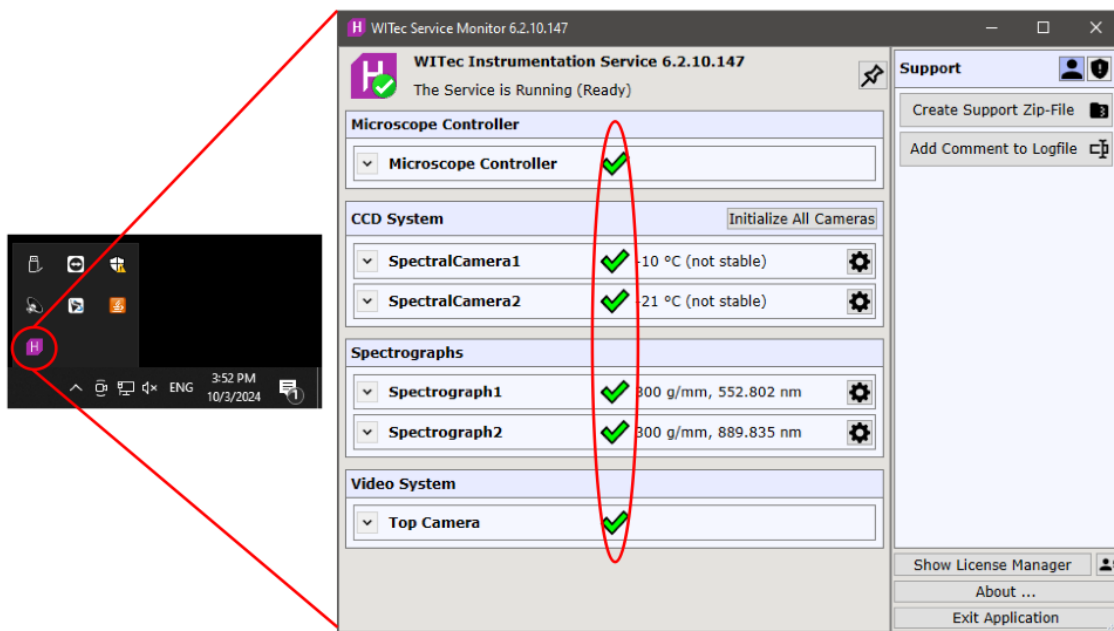

Figure 3
- 4) Click on "H" logo (highlighted by red circle) at the quick load zone of Windows 10 (left panel in Fig 3) to show the WITec Service monitor page (right panel in Fig 3), make sure all six items are checked with green check marks as shown in Fig 3 below before moving to next step.
- 7) Spectral Camera status is no longer monitored in **Message**, it is monitored in WITec Service Monitor as shown in Fig 3: